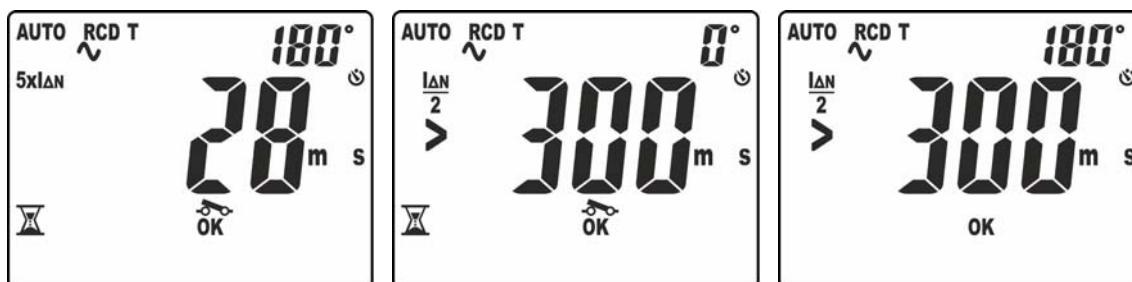

Fig. 33: Tripping time in AUTO mode – Screen 2
13. The fourth test carried out is the one with test current $5xI_{\Delta n}$ and polarity 180° . The result of partial measurement is shown on the display with indication "OK" or "NOT OK" (see Fig. 33 – right side). Symbol "⚡" flashing indicates that the RCD must be reset.
14. The fifth test carried out is the one with test current $\frac{1}{2}I_{\Delta n}$ and polarity 0° . The result of partial measurement is shown on the display with indication "OK" or "NOT OK" (see Fig. 33 – middle). Message ">300ms" indicates that the full scale of the instrument has been reached, to indicate that the RCD correctly did not trip in this situation. Symbol "⚡" flashing indicates that the RCD must be reset.
15. The sixth and last test carried out is the one with test current $\frac{1}{2}I_{\Delta n}$ and polarity 180° . The result of partial measurement is shown on the display (see Fig. 33 – right side). Message ">300ms" indicates that the full scale of the instrument has been reached, to indicate that the RCD correctly did not trip in this situation. Indication "OK" or "NOT OK" indicates in this case also the final result of the test